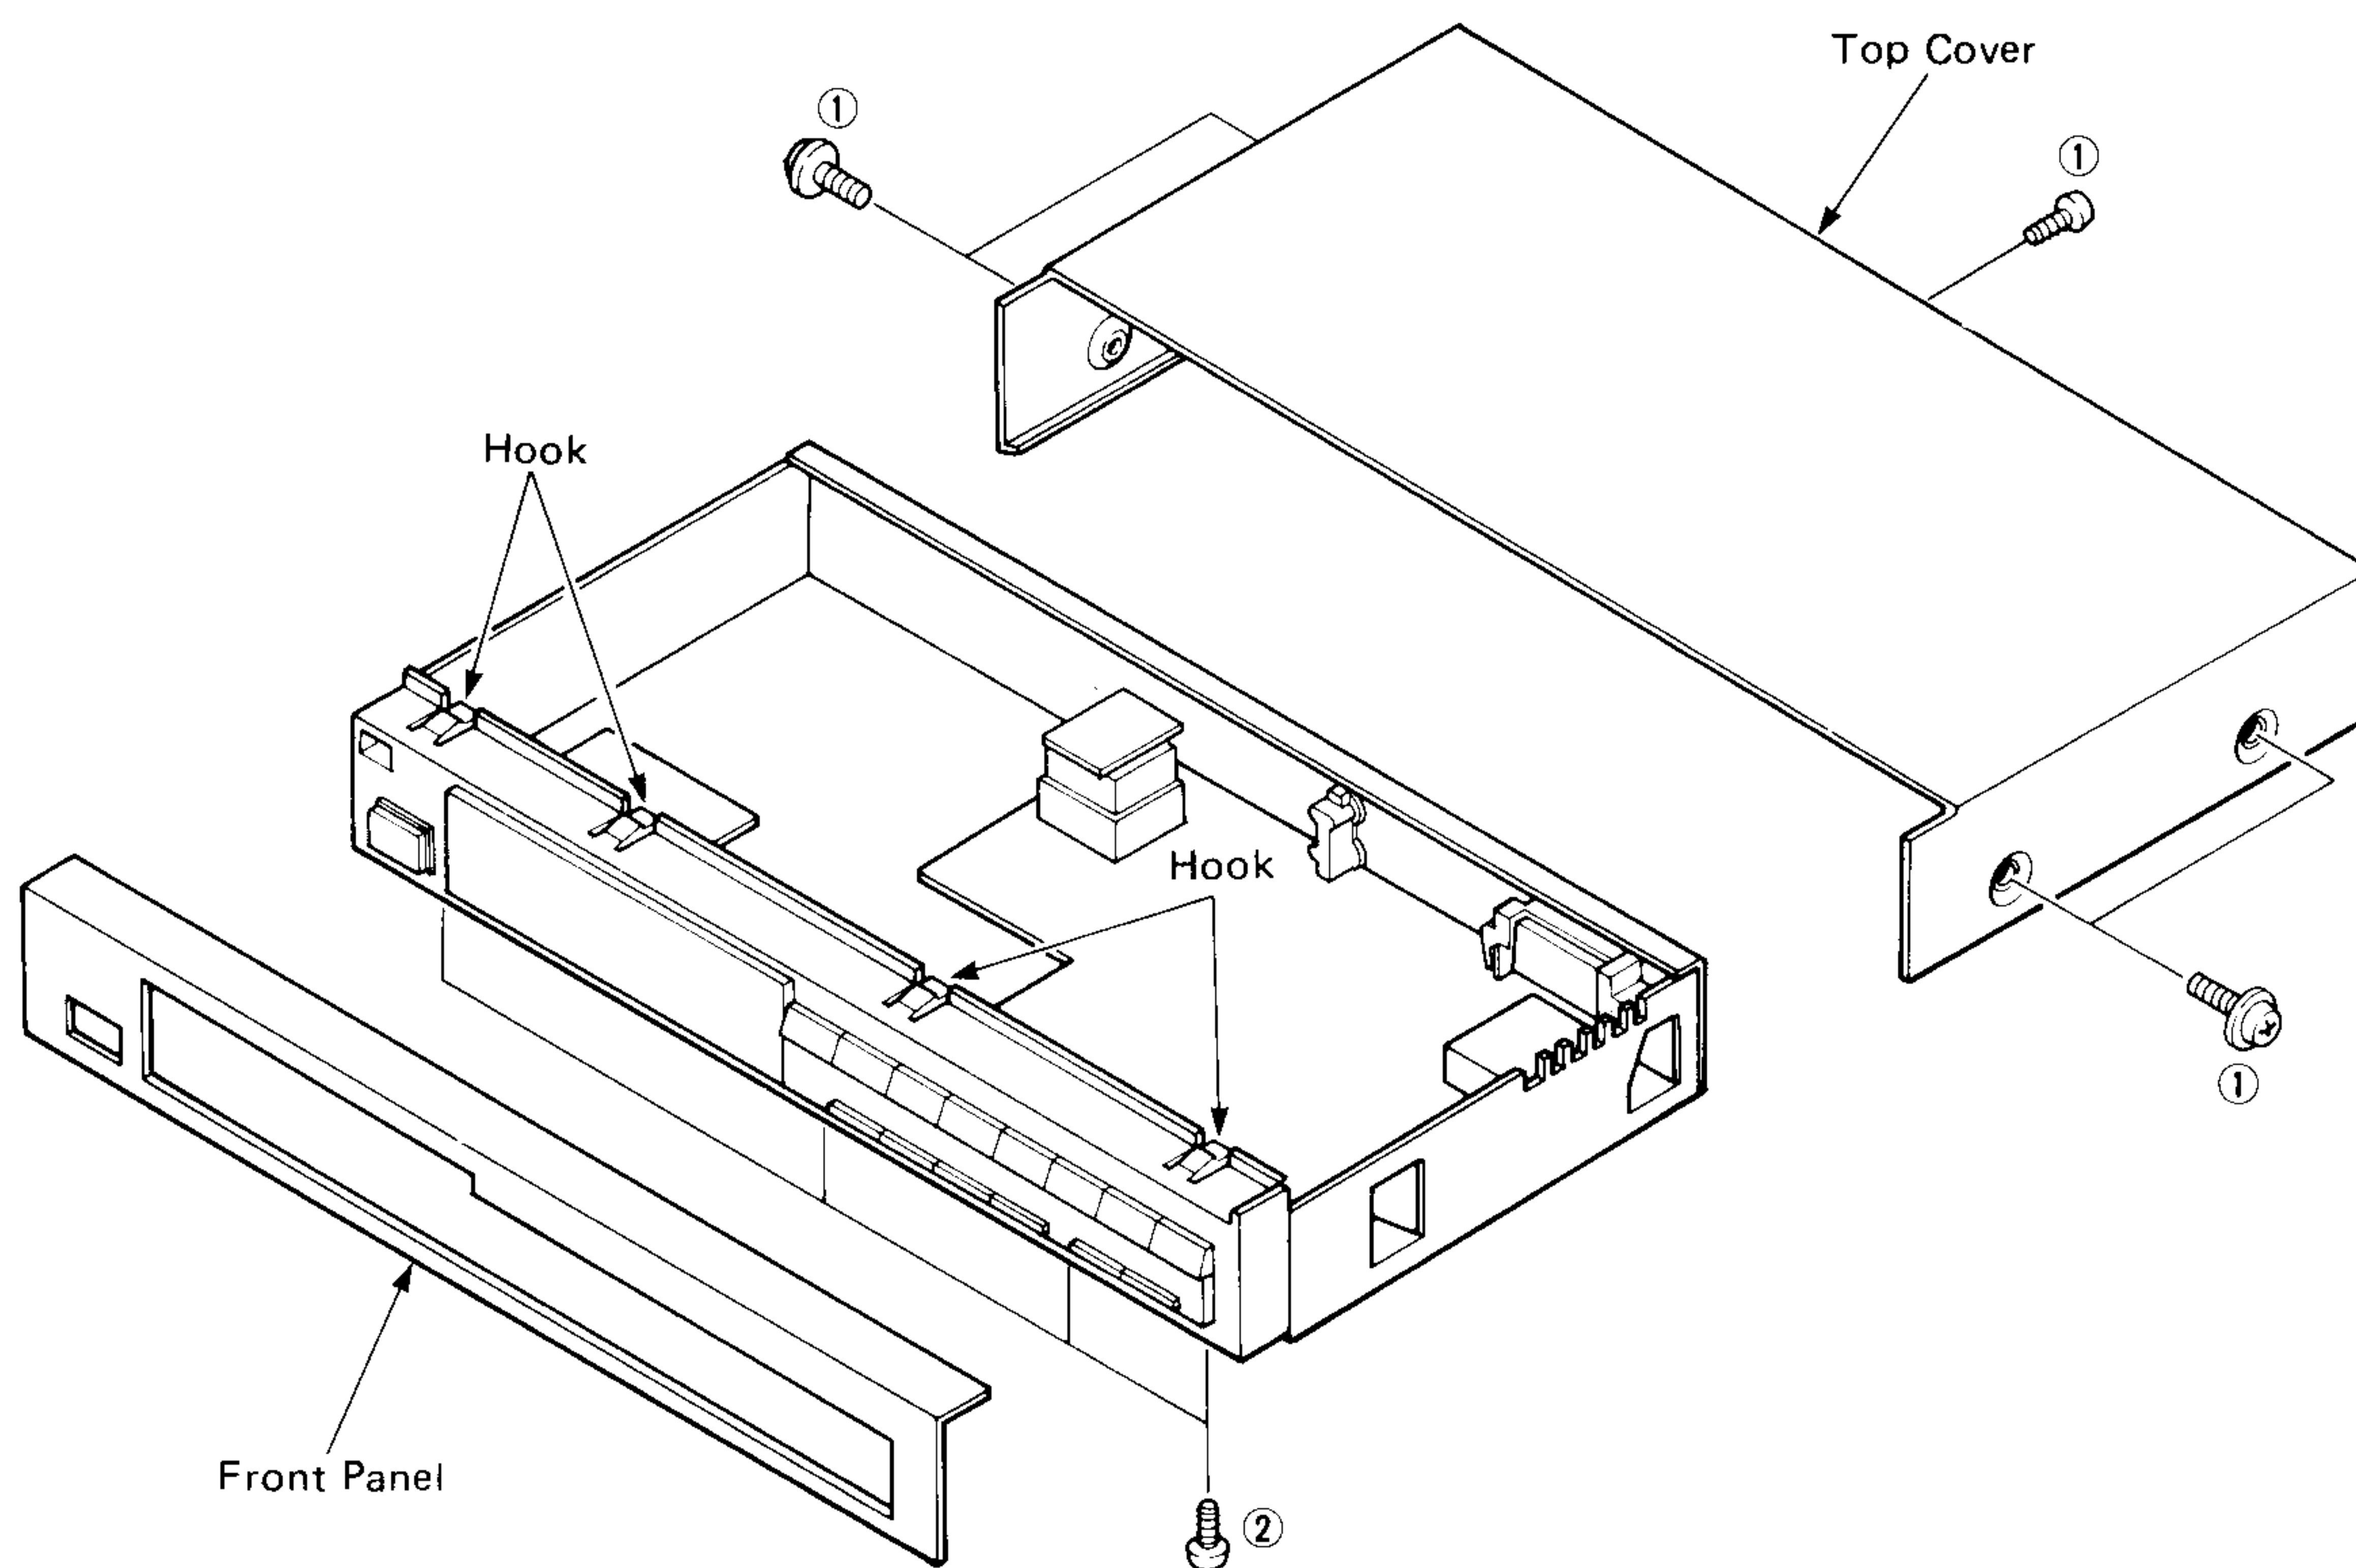

Fig. 1
Remove 5 screws ( ① ) in Fig. 1, and slide the Top Cover back.
Remove 4 screws ( ② ) and 3 hooks in Fig. 1, and pull the Front Panel forward.